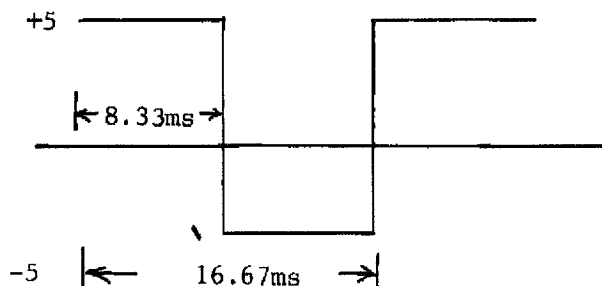

FIGURE 3
13. Set the generator for a symmetric square wave as per Figure 3.